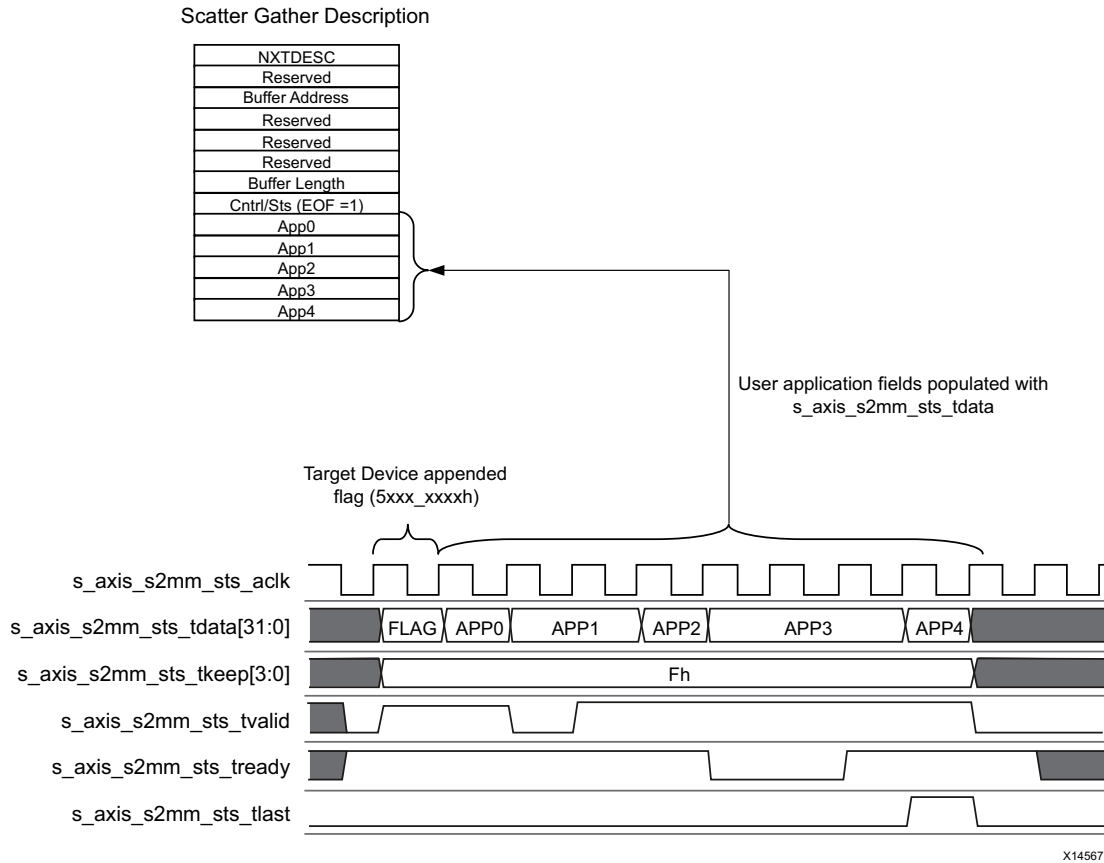

Figure 2-39: Example User Application Field / Timing for S2MM Status Stream
The AXI status stream is provided for transfer of target device status to User Application data fields in the Scatter Gather descriptor. The status data is associated with the S2MM primary data stream. As shown in Figure 2-39, the status packet updates to the app fields of the detected last descriptor (RXEOF = 1) describing the packet. Normally, the status stream should come at the start of the S2MM data stream. If the Use RxLength In Status Stream is disabled, then the status stream can come at any time during the course of the S2MM frame. The End of Frame (EOF) Buffer Descriptor (BD) update would happen only when the entire status stream is received.